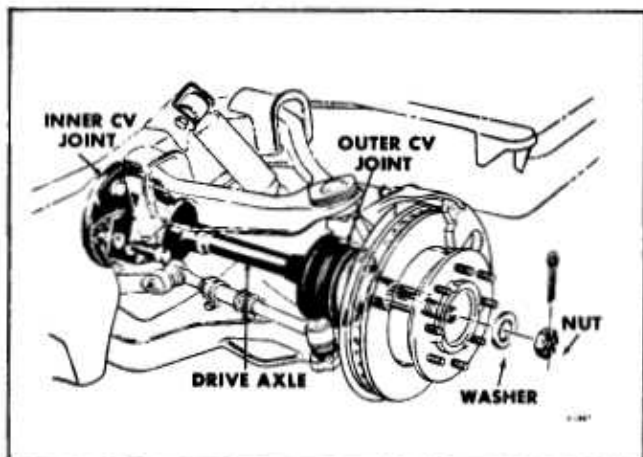

Figure 2-Drive Axle Installed
2. Remove drive axle cotter pin, nut and washer. (figure 2)
5. Remove R.H. output shaft support bolts to engine and final drive. (figure 2).